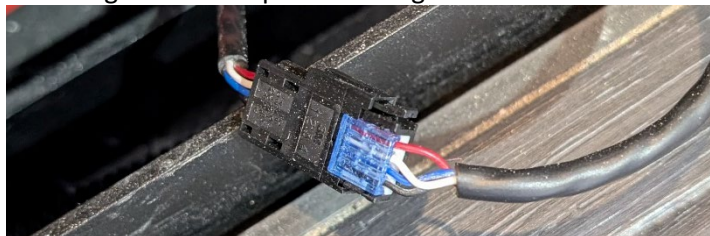

Figure 9
- Trim excess wire and install new Spyder connector part 5066157 to RVC, wire sequence red, white, blue, and black starting from the clip side see figure 9.
- Install new Spyder connector part 5066158 to existing Spyder cable in the step well, Red, white, blue, black starting from the clip side. See figure 9.